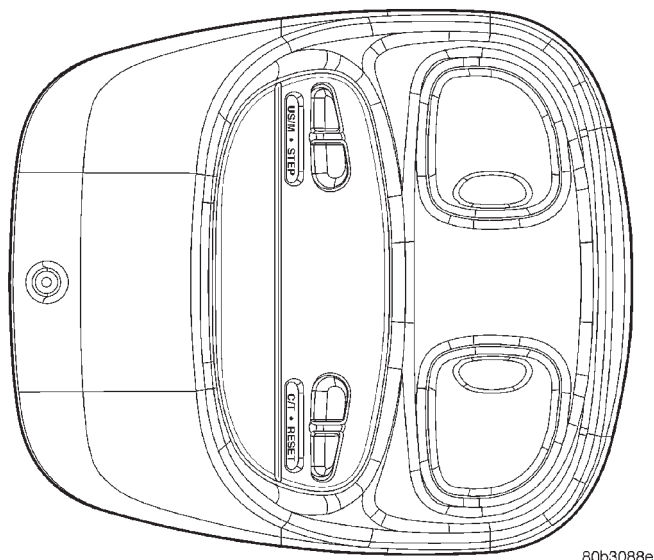

**Fig. 1 Mini Console Without Universal Transmitter**
(1) Mini Console (Fig. 1) has: